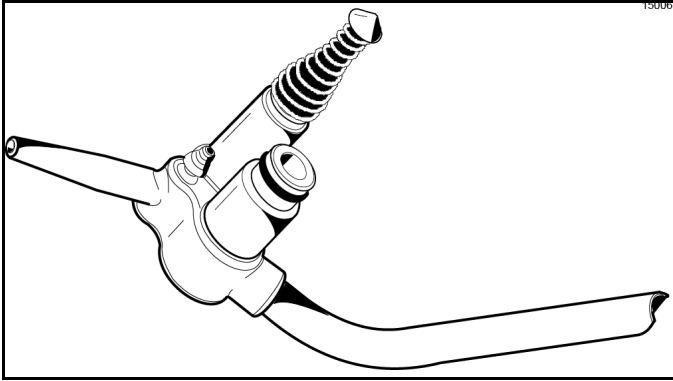

Figure 6-24
8. Put the rubber poppet into the small end of the spring. Attach the spring and poppet to the end of the pressure relief fitting. The spring and poppet must be securely fastened and must not be allowed to float freely. (See Figure 6-24.)